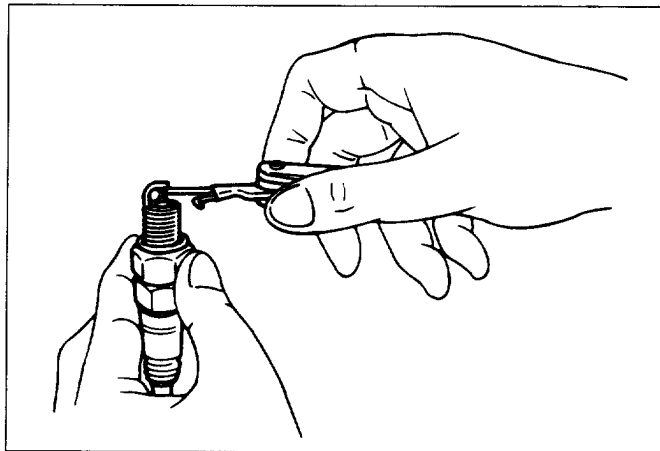

Fig. 6D4-7
- Bend the ground electrode to adjust the spark plug gap. (Fig. 6D4-7)